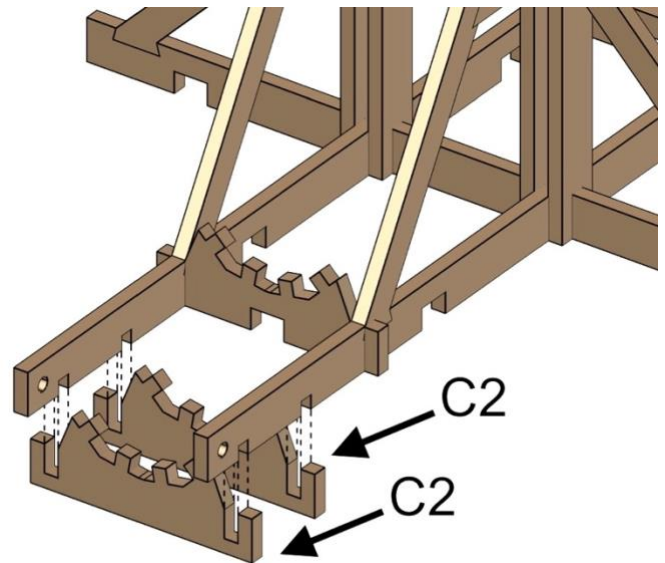

Fig. 23
- Align parts exactly as shown in *Fig. 23*.